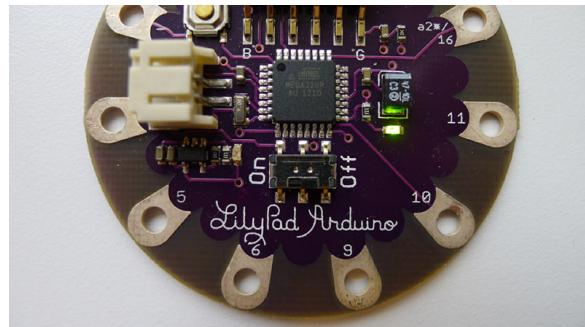

Figure 6-17. LilyPad Arduino Simple with surface-mount LED on pin 13 lit
4. Look at the small, green LED that lives on your LilyPad Arduino Simple. It should be blinking (Figure 6-17). Hello Arduino!